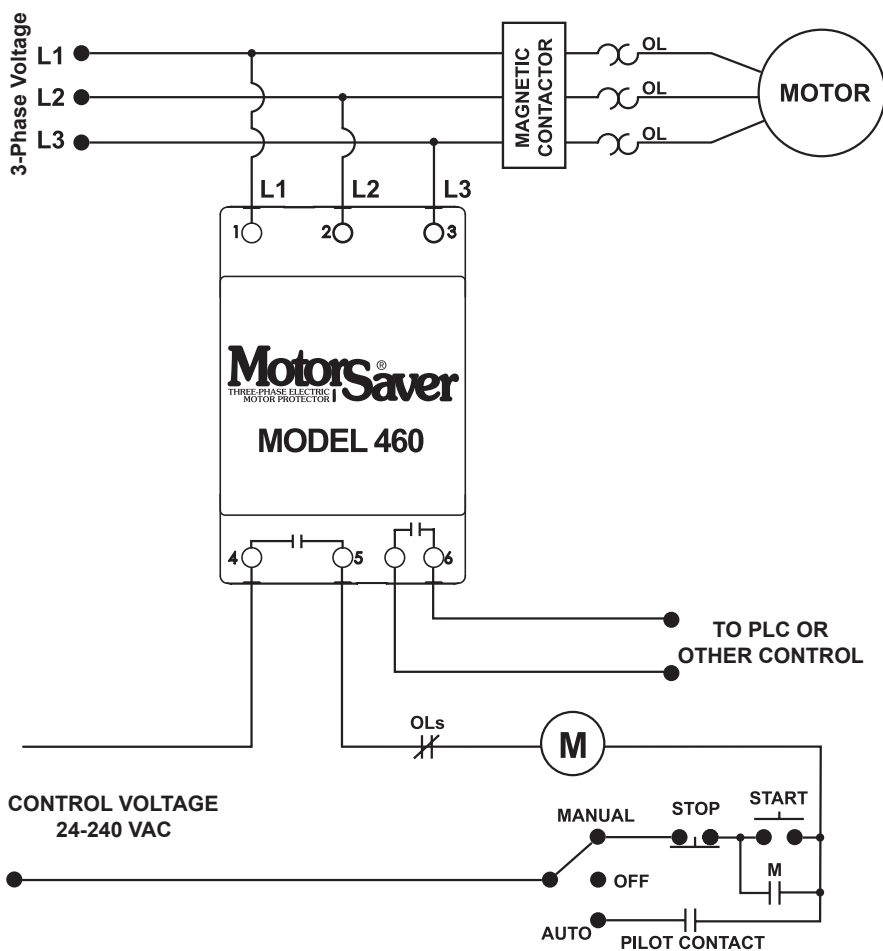

FIGURE NO. 1: CONTROL WIRING DIAGRAM
2. Connect L1, L2 and L3 on the MotorSaver's terminal strip to the LINE SIDE of the motor starter. (See Figure No. 1).
3. Connect the output relay to the circuitry to be controlled. For motor control, connect one normally open contact in series with the magnetic coil of the motor starter as shown in Figure No. 1. Use the other normally open contacts for a PLC input or other controls.